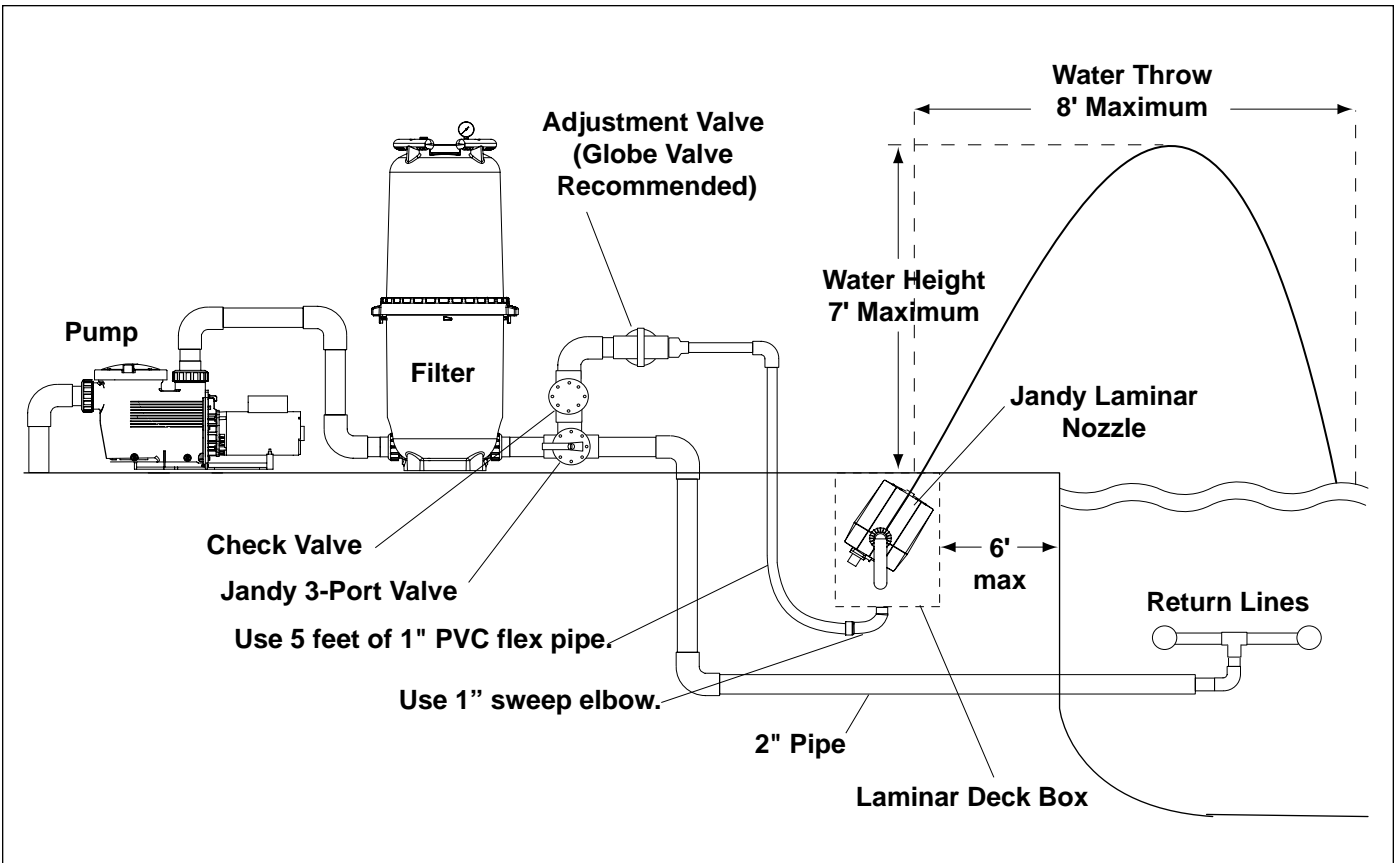
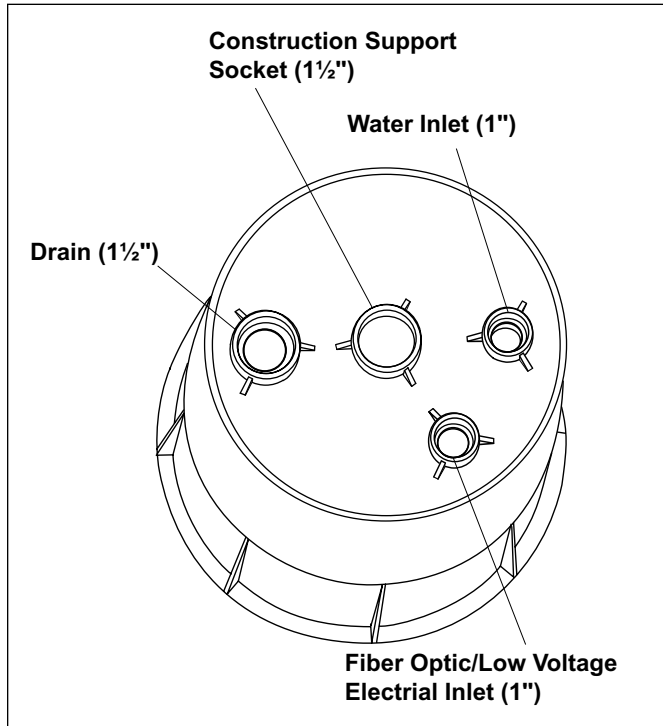

Figure 1. Basic Plumbing Diagram for Laminar Jet with Deck Box
Figure 5. Deck Box - Bottom View
Each Laminar Jet requires a 1½" to 2" PVC main feed line with 1" PVC entering the Deck Box. An adjustment valve and a check valve are also required. Valves should be placed as far from the Deck Box as possible to minimize water turbulence (refer to Figures 1 and 2 and Table 1).
**NOTE** To ensure that the box stays upright while installing **and** leveling the unit, place a six inch (6") length of one and one half inch ( $1\frac{1}{2}$ ") PVC pipe in the construction support socket located on the bottom of the box (see Figure 5).
- Plumb the incoming, filtered water supply to the one inch (1") hub located on the bottom of the Deck Box marked **Inlet** (see Figure 5). The filtered water supply must include an adjustment valve and check valve (see Figures 1 and 2).
- Plumb the conduit for the fiber optic cable to the one inch (1") hub located on the bottom of the Deck Box marked **Fiber Optic/Low Voltage Electrical** (see Figure 5). Refer to Section 3 for fiber optic installation.
**NOTE** This hub is also used to install the two (2) conductor, eighteen (18) gauge, stranded cable for the optional LPC4 light pulse control system.
- Lift up the lid/jet assembly and adjustable deck lid collar from the Deck Box. Disconnect the two (2) ½" unions located on the bottom of the Laminar Jet. Set the lid/jet assembly aside.
**NOTE** To ensure that the box stays upright while installing and leveling the unit, place a six inch (6") length of one and one half inch (1½") PVC pipe in the construction support socket located on the bottom of the box (see Figure 5).
4. Level the Deck Box. To hold the box in place, position a six inch (6") length of one and one half inch (1½") PVC pipe in the construction support socket located on the bottom of the box (see Figure 5). In include an adjustment valve and check valve (see Figures 1 and 2).
5. Plumb the incoming, filtered water supply to the one inch (1") hub located on the bottom of the Deck Box marked **Inlet** (see Figure 5). The filtered water supply must include an adjustment valve and check valve (see Figures 1 and 2).